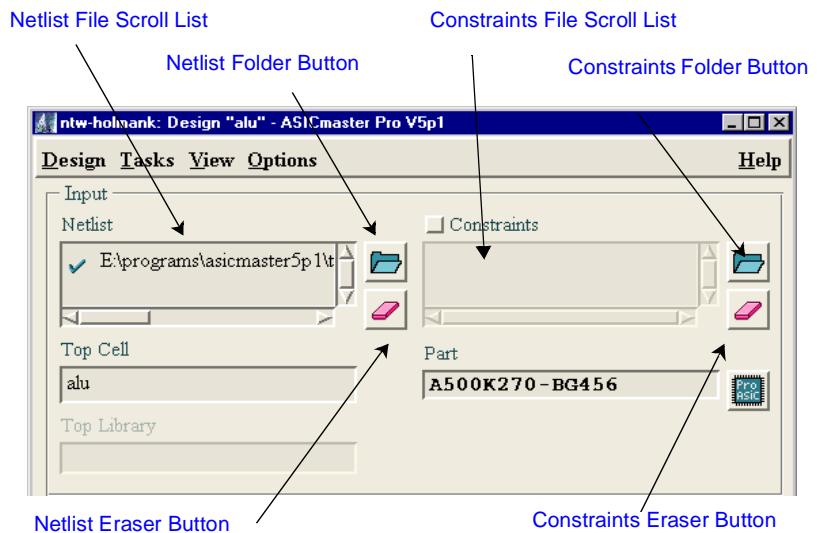

Figure 2-8. Design Executive Window Input Area
To begin a design, one or more netlist files must be selected. Once selected, the netlist(s) are displayed in the Input area of the Design Executive window, as shown in Figure 2-8.
Select the netlist in the Input area of the Design Executive window and click the Eraser button next to the Netlist file scroll list, as shown in Figure 2-8 on page 22.
- 1. Click the Constraints Folder button in the Design Executive window (see Figure 2-8 on page 22).** The Constraint File Selection browser is displayed. If the file format has been set, the filenames that appear are limited to those in the format specified.